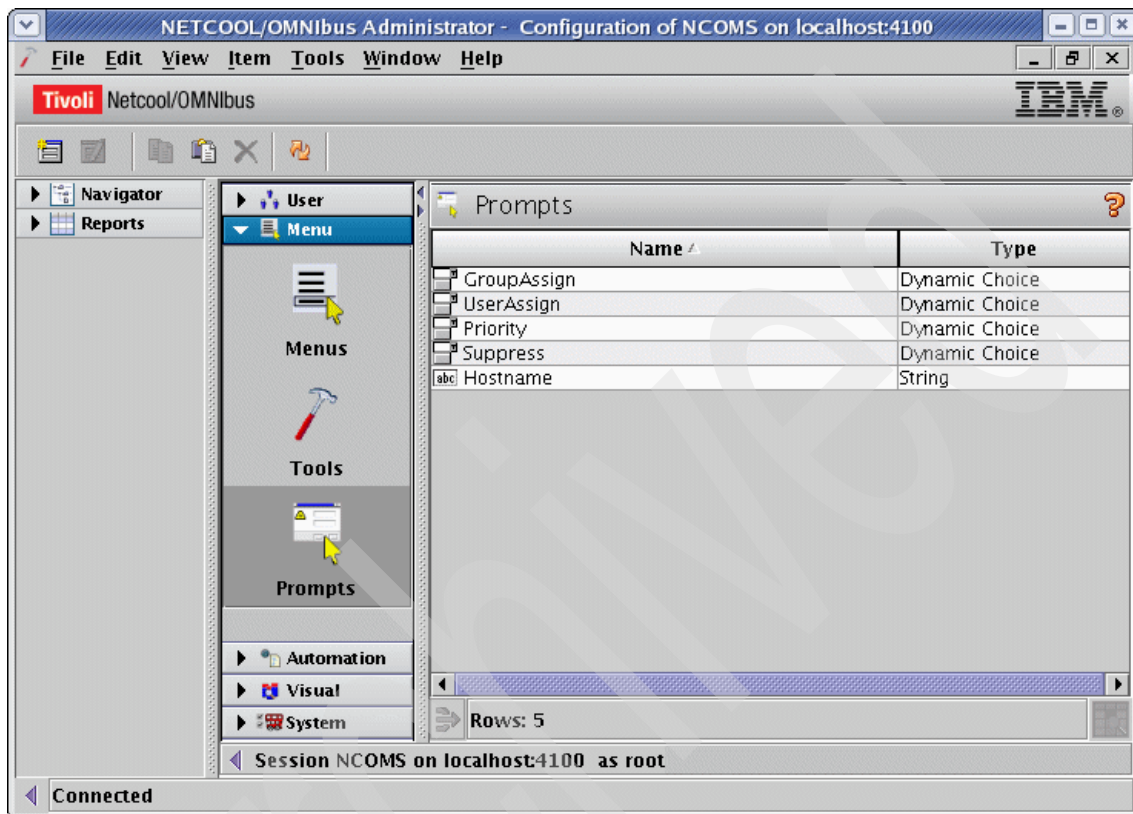

Figure 4-43 Prompt
- There is a way to collect operator input from the tools before running the executable. This is called a prompt. You define the prompt by selecting **Menu** → **Prompt**, as shown in Figure 4-43.